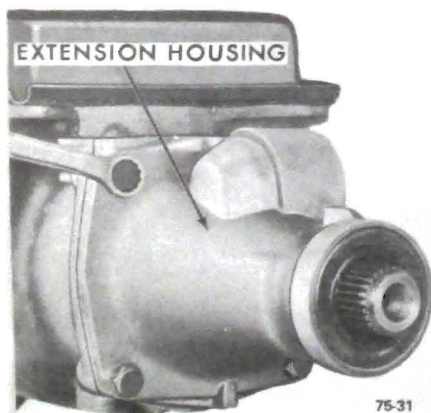

Figure 75-274
2. Attach extension housing to case using attaching bolts. Torque to 35 lb.ft. See Figure 75-274.